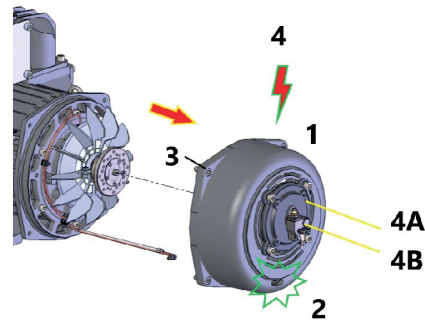

Fig. H.17 - Phase 0040
- Remove 4 M12x25 screws (**pos.3 Fig. H.17**) (Allen key 10).
- Remove the rear fan cover (**pos.1 Fig. H.17**) support flange and oil pump (**pos. 4A-4B Fig. H.17**).
- Pay attention to the slightly difficult passage of the pipes through the slot (**pos.2 Fig. H.17**).
- Warning: the oil pump (**pos. 4B Fig. H.17**) must be replaced from left to right or vice versa. For codes see exploded view tables.
The oil pump (**pos. 4B Fig. H.17**) must be replaced from left to right or vice versa. See exploded views for part numbers.